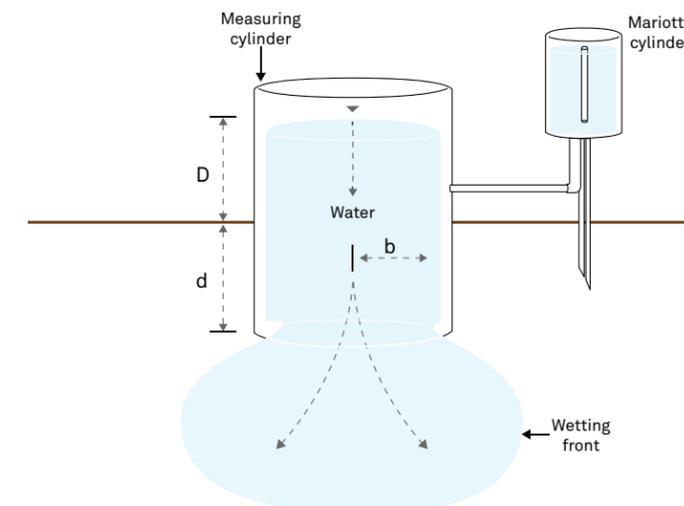

Figure 32 Cross section of a single-ring infiltrometer
Field saturated hydraulic conductivity, K_{fs} (cm/s) is a fundamental soil hydraulic property that describes the ease with which a fluid (usually water) can move through pore spaces or fractures under field saturated conditions. One of the oldest and simplest methods for in situ determination of K_{fs} has involved the measurement of ponded infiltration (D) from within a single ring (with a radius b) pushed a small distance into the soil (d) (Figure 32). The original analysis used the measured steady flow rate, Q_s (cm³/s), and assumed one-dimensional, vertical flow to obtain K_{fs} from Bouwer (1986) and Daniel (1989).